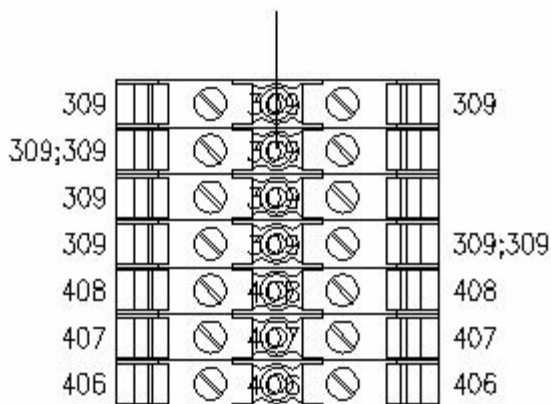

Figure-28. New terminal strip attached to cursor
- Click on the **Insert** button if you want to insert new graphical representation of the terminal strip. The strip will get attached to the cursor; refer to Figure-28.